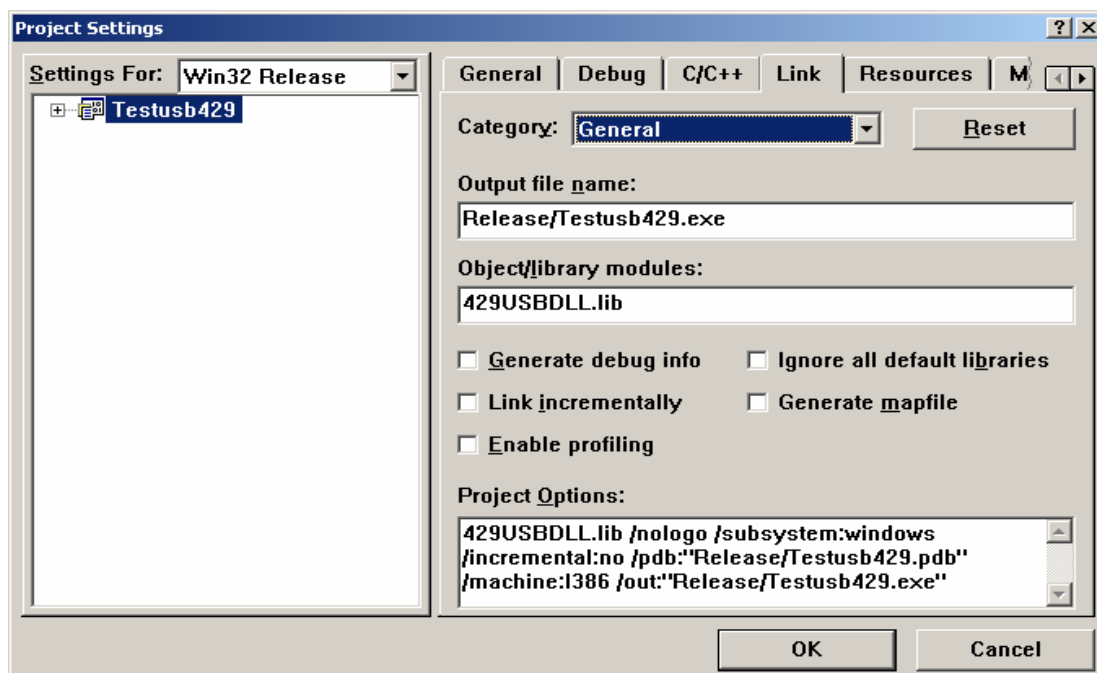

Figure 5-1 Add 429USBdll.lib to project
- 2、 Add the 429USBdll.lib to the project: **Project**→**Setting**→**Link**, Shown in the **Figure 5-1**: